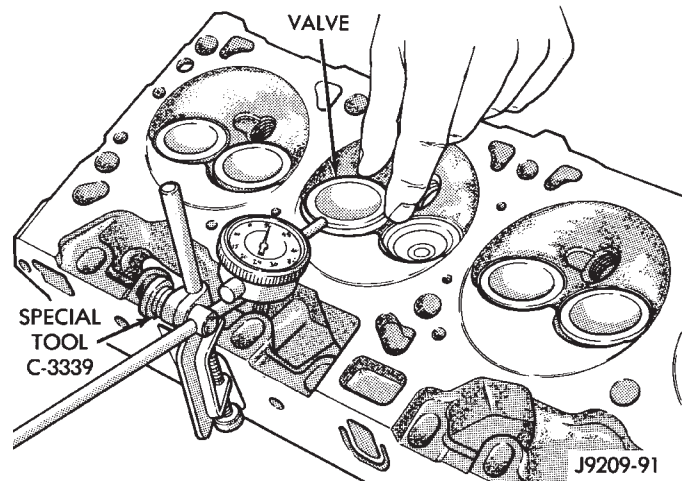

Fig. 51 Measuring Valve Guide Wear
- (2) Attach Dial Indicator Tool C-3339 to cylinder head and set it at right angle of valve stem being measured (Fig. 51).